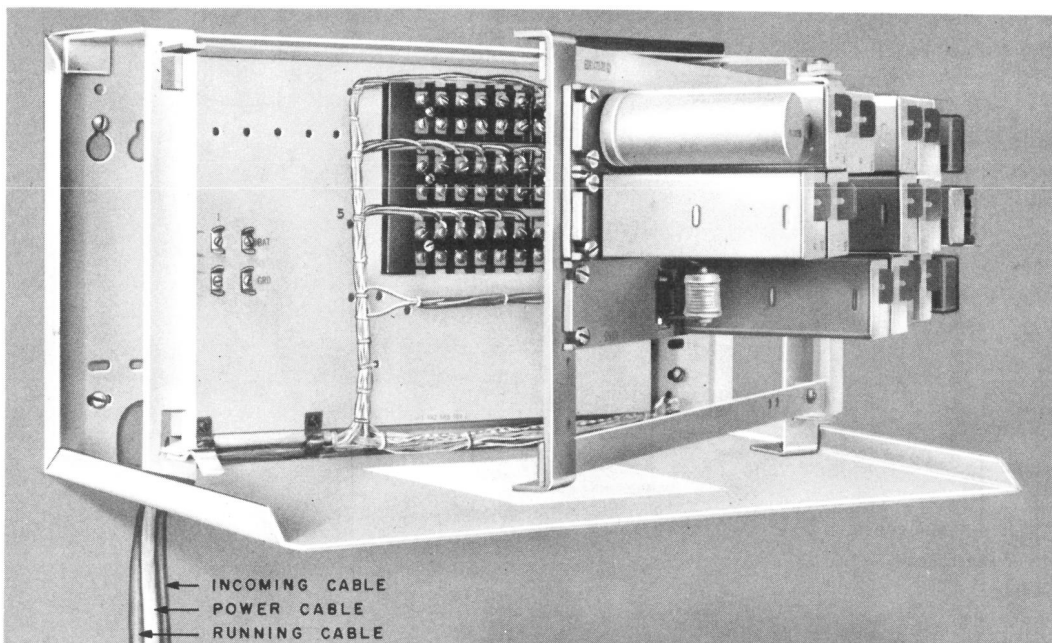

Fig. 3 — Strip-Mounted 50-Type Key Telephone Units in a 4-Plate Cabinet, 1A System
3.03 Strip-mounted equipment for the 1A system is usually mounted in a 4-plate cabinet (Fig. 3).